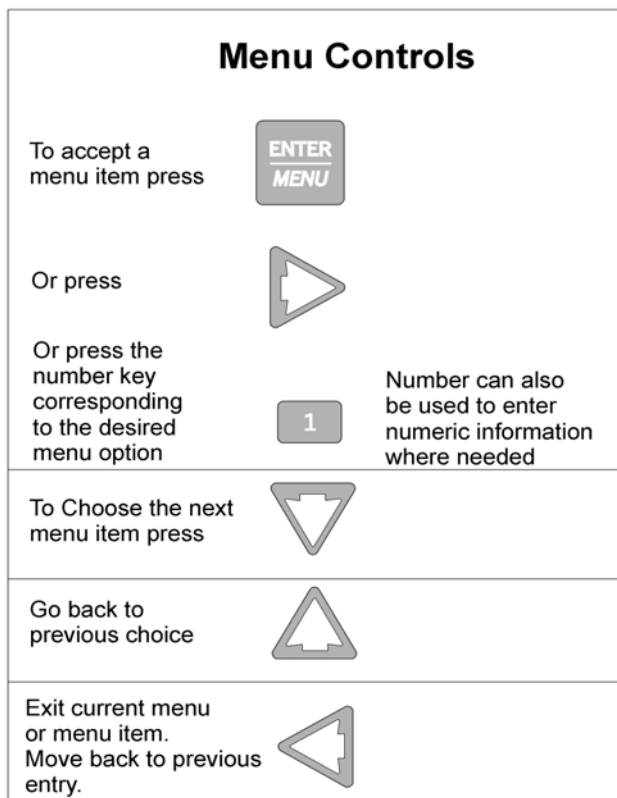

Figure 4-5 Main Menu Controls
2. Choose the desired menu item. (See Figure 4-5.)
Figure 4-5 indicates which keys on the touchpad are used to maneuver through the Main Menu.